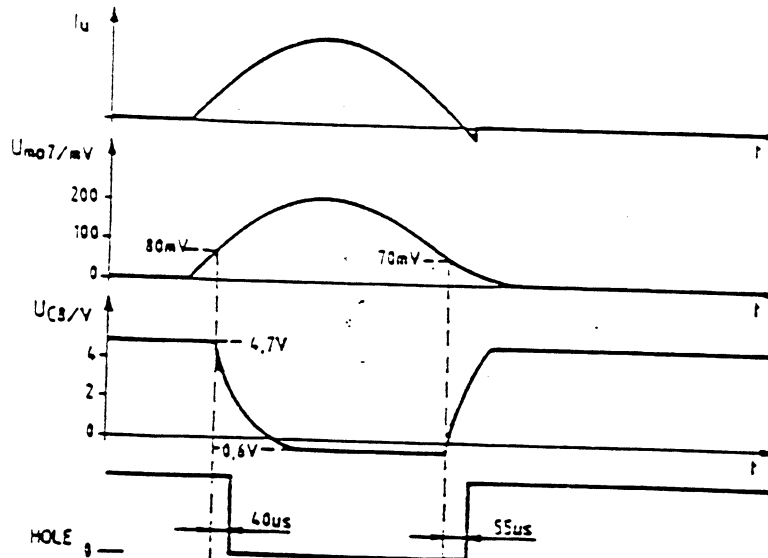

Figure 6. Operation of the current uncontinuity measurement
- in figure 6 is an example of the operation